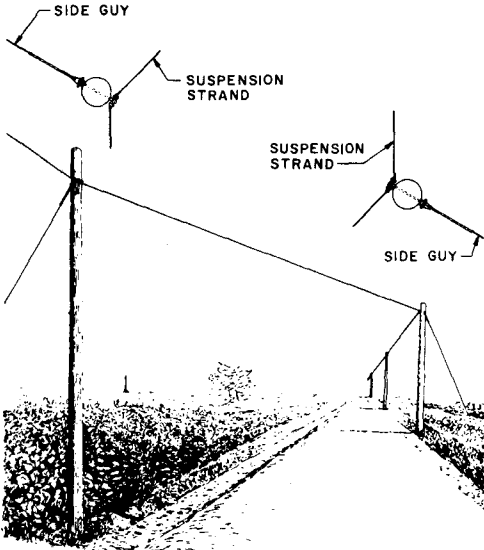

Fig. 7—Reverse Corner in Line
2.06 Reverse corners such as at road crossings shall be guyed as separate corners in the line. (See Fig. 7.) Where a guy bisecting the angle of pull cannot be used, the guying shall be as described in 2.05(c).